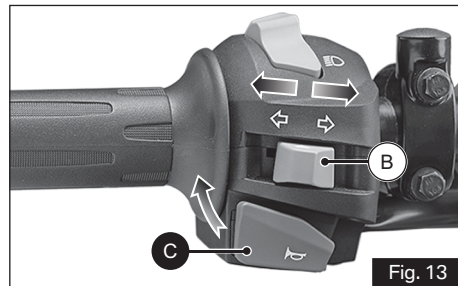

Fig. 13
B) Switch turn signal (ref. Fig. 13)
C) Switch horn (ref. Fig. 13)